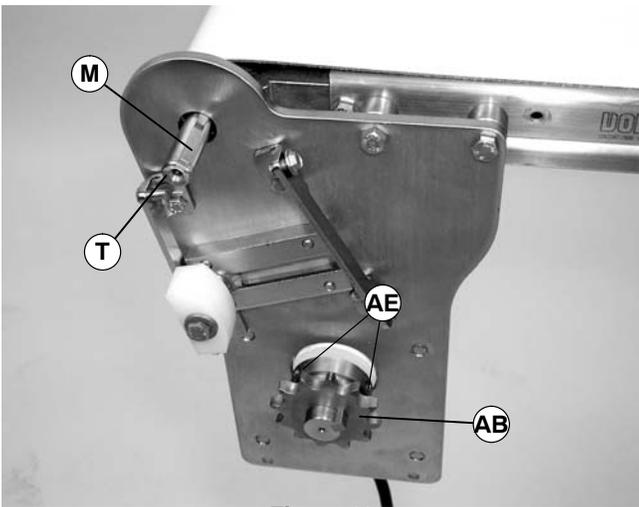

Figure 11
NOTE: Figures 11 through 15 show timing chain installation on a 7200 Series conveyor. Installation on a 7300 Series conveyor is similar.
4. Install key (M of Figure 11) on drive spindle (AE).
NOTE: Depending on sprocket sizes, it may be necessary to remove drive sprocket (AB of Figure 11) by loosen two set screws (AE) to install chain and sprockets.